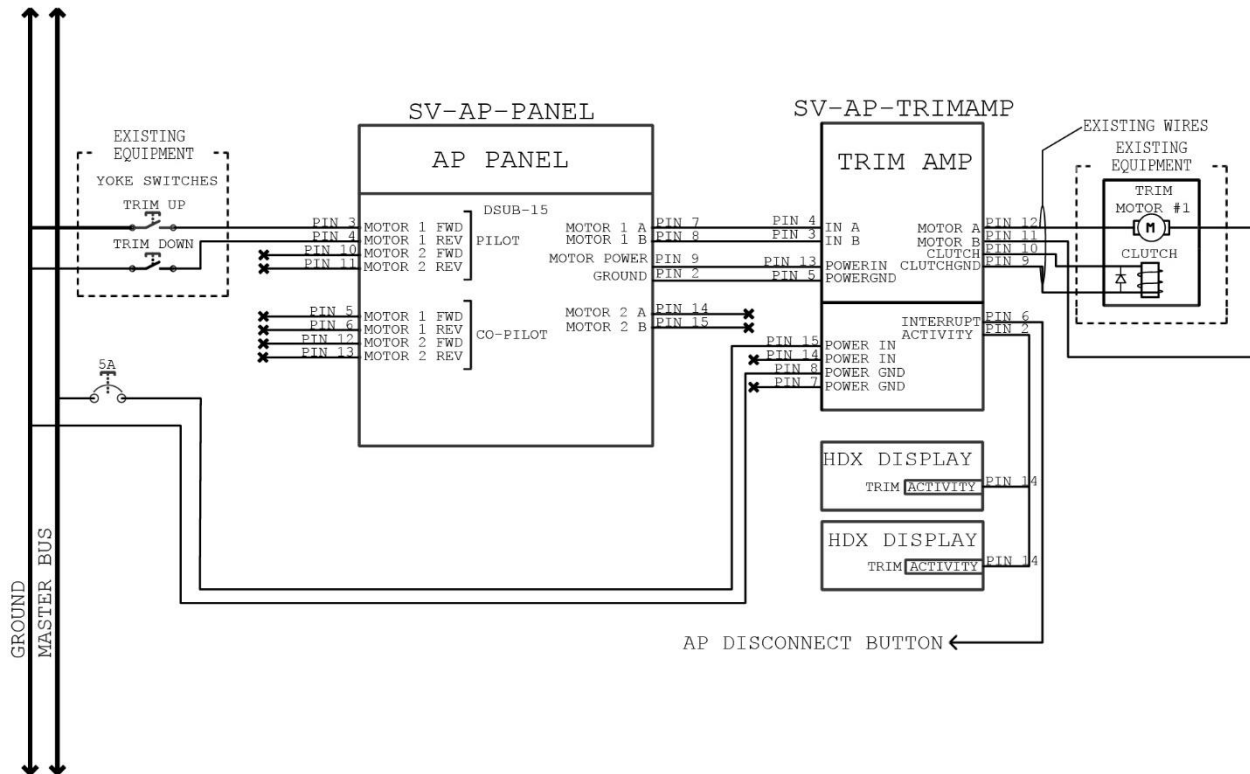

Figure 237 – SV-AP-TRIMAMP Electrical Installation for Motor 1 (Motor 2 Similar)
3. Route SV-AP-TRIMAMP harness as follows (also see Figure 237):
5. Use insulated connectors to connect SV-AP-TRIMAMP harness as follows (also see Figure 237):